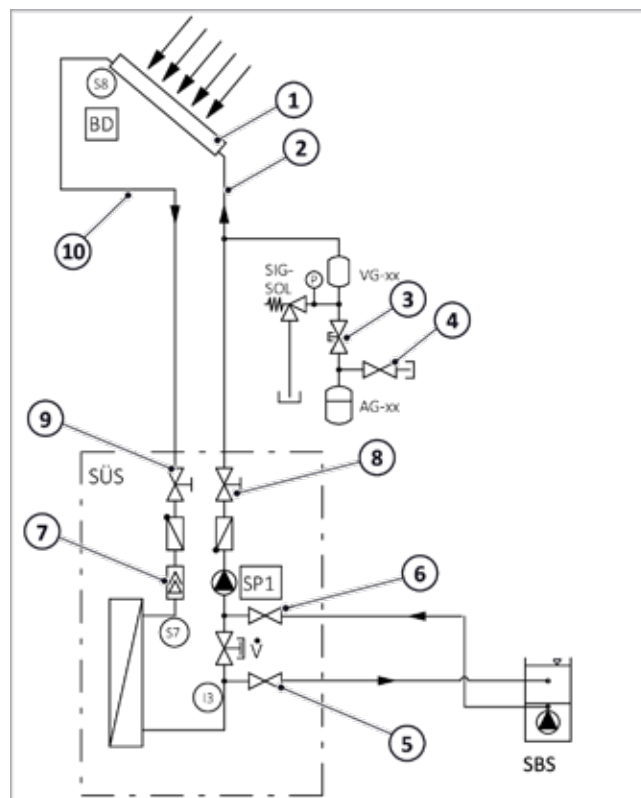

Fig. 21: Solar heat transfer station: Flushing the pump line
- Once the solar circuit has been refilled, gas will be emitted during operation, which collects in the station deaerator → fig. 21, page 17 (7). The gas emissions decrease as the operation time increases. It is therefore important to bleed the deaerator and check the system pressure every day in the first few days after start-up and then at regular intervals, depending on the amount of air discharged.
6. Bleed the deaerator → (fig. 21, page 177) on the station using the manual bleeder.
- Once the solar circuit has been refilled, gas will be emitted during operation, which collects in the station deaerator → *fig. 21, page 17 (7)*. The gas emissions decrease as the operation time increases. It is therefore important to bleed the deaerator and check the system pressure every day in the first few days after start-up and then at regular intervals, depending on the amount of air discharged.
1. Close the cap valve (7, see → *fig. 21, p. 17*) on the solar expansion vessel (horizontal marking).